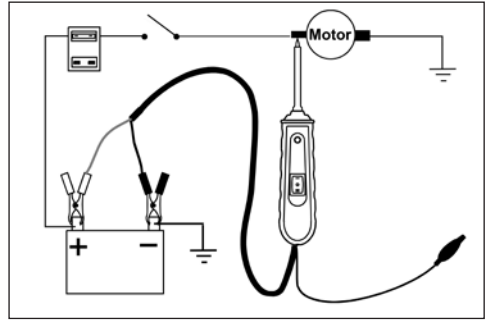

Fig.6
2. Connect the auxiliary ground lead clip (6) to the trailer's ground.
6.6 Activating Electrical Components with Positive Voltage (Fig.6)